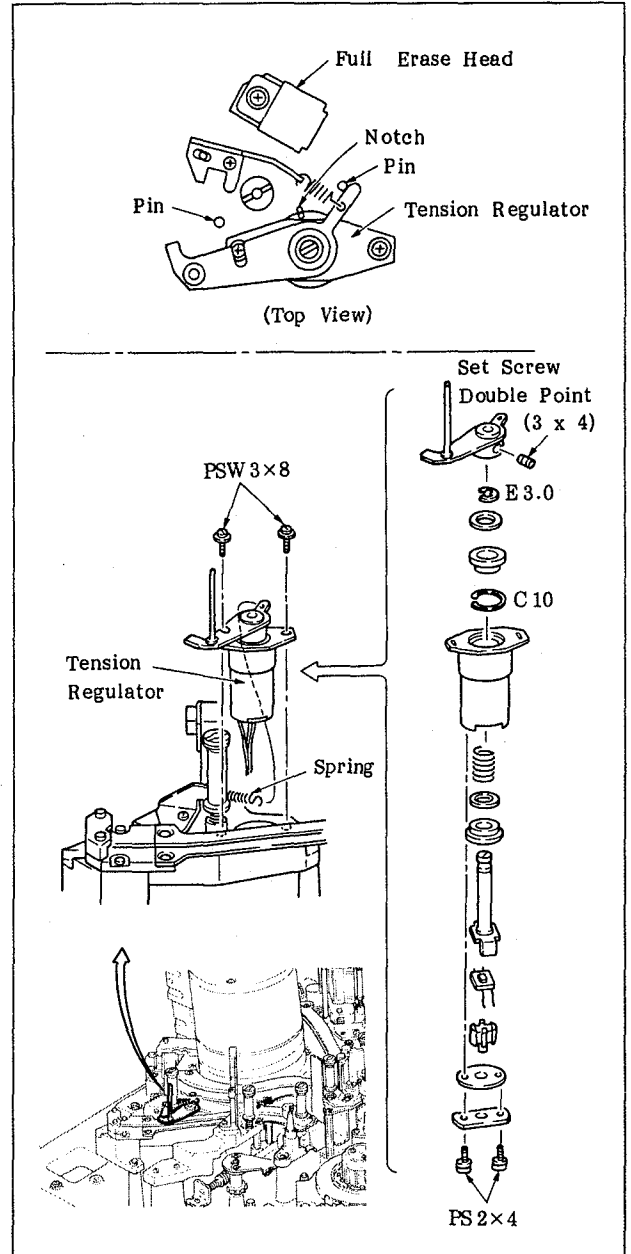

Fig. 6-52 Replacement of the Tension Regulator
- A. Refer to Figure 6-52 when replacing the components of the tension regulator. Adjustments to be made after replacement can be made in a manner similar to that of assembling.
2. Remove the tension regulator, or the component, and replace it with a new one by referring to Figure 6-52.
- Note:** Be careful of the position of the notch and the pins, as shown in the upper drawing of Figure 6-52, when attaching the tension regulator assembly.